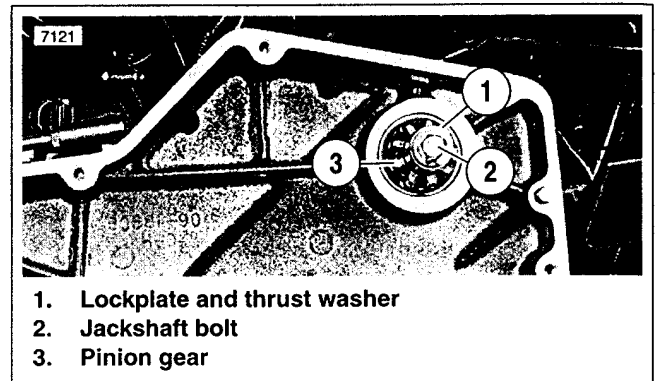

Figure 5-7. Lockplate on Jackshaft Bolt
3. See Figure 5-7. Bend tab on lockplate (1) away from head of jackshaft bolt. Hold pinion gear (3) in place and remove jackshaft bolt (2), lockplate and thrust washer.
4. See Figure 5-7. Install lockplate and thrust washer (1) and jackshaft bolt (2). Hold pinion gear (3) in place and tighten bolt to 84-108 in-lbs (9.5-12.2 Nm). Bend tab on lockplate against flat of bolt head to secure.